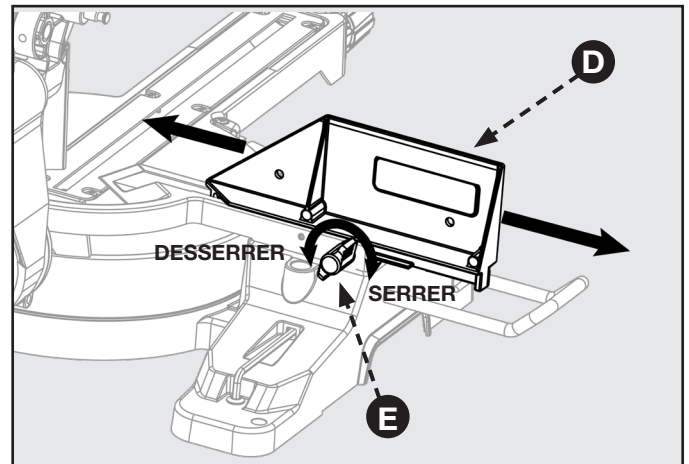

FIGURE 25
This saw is equipped with an adjustable extension fence. To extend or retract the fence refer to Figure 25 and follow these instructions: Loosen the wing nut (E) by rotating counterclockwise and slide the fence (D) into the desired position. Make sure to re-tighten wing nut (E) by rotating clockwise.
**⚠ DANGER:** Always check to make sure wing nut (E) is tightened before making a cut. Failure to do so may result in injury.